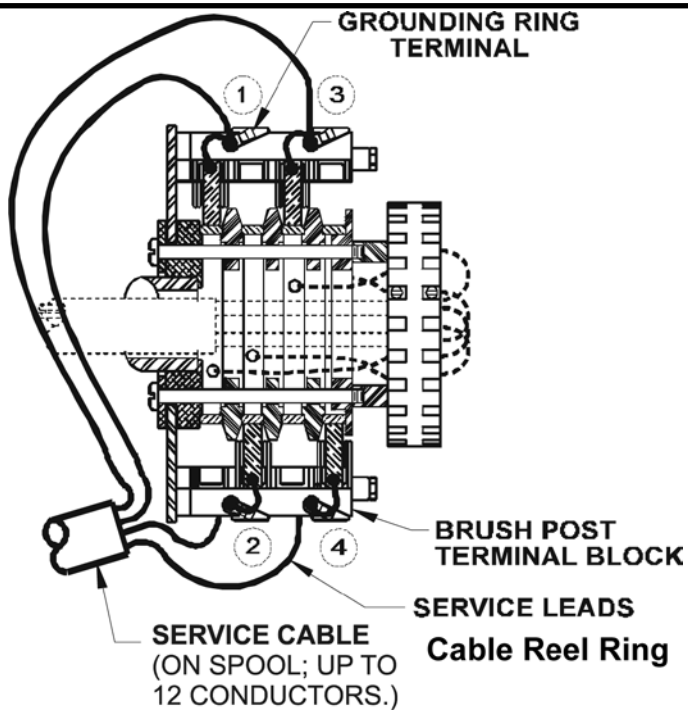
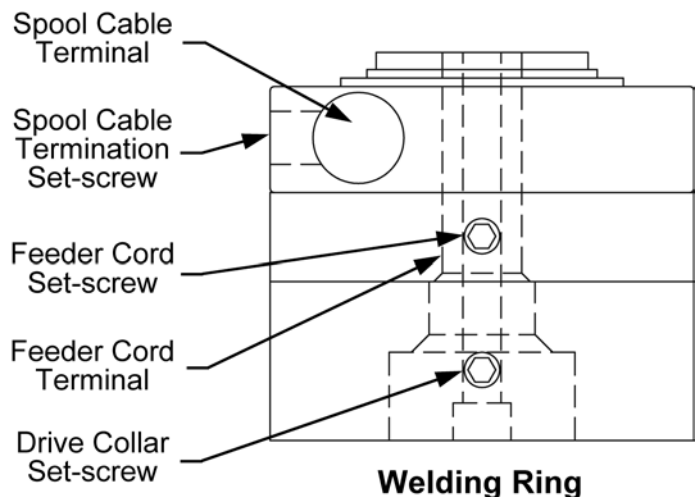

Figure 3
Figure 3a
2.5.7 Strip and insert cable leads into the appropriate brush post terminals and torque screws to 5in-lbs. (See page 10 for Color Code Chart used by factory. Figure 3 illustrates Slip Rings, and Figure 3a illustrates Welding Rings.) All weld cable lead ends should be tinned for optimal performance (Fig. 3A)
(For Welding Reels See Section 2.5 and Figure 3a.)